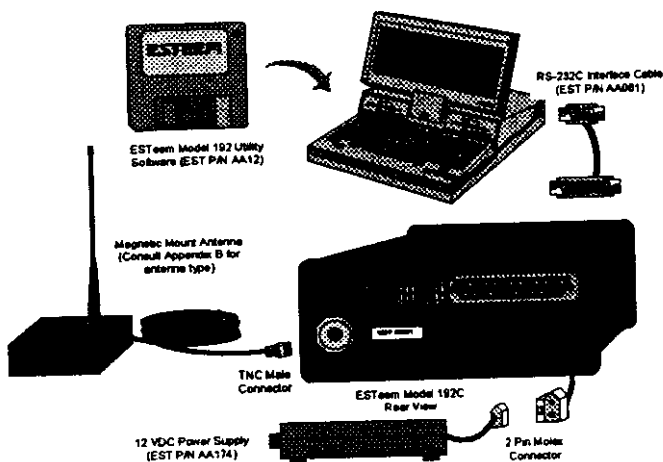

Figure 1: Installation Diagram
2. Insert the 3.5 inch ESTeem Utility Program into drive A. Reference Figure 1.
**Note:** A standard 9-Pin serial port on a computer to ESTEem interface cable is the ESTEem AA061 (Figure 1).